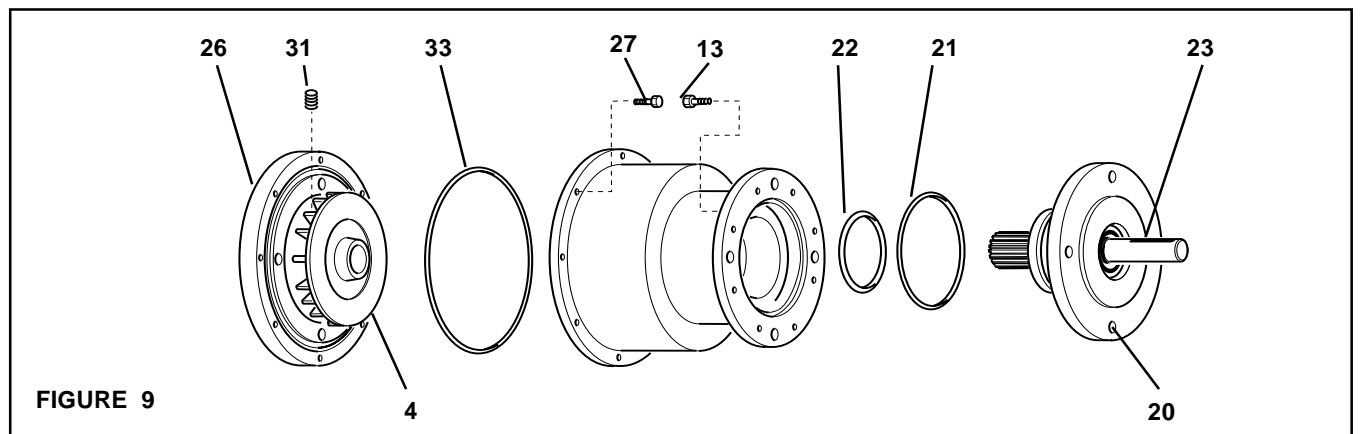

FIGURE 9
1. Remove the eight Hex. Head Cap Screws (Item 27), Female Pilot (Item 26), Drive Disc (Item 4), and O-ring Seal (Item 33) from the FMCBE Assembly (See Figure 9).
2. Remove the eight Hex. Head Cap Screws (Item 13), Male Pilot (Item 20), Bearings (Item 19), Stub Shaft (Item 23), and O-ring Seals (Items 21 and 22) (See Figure 9).